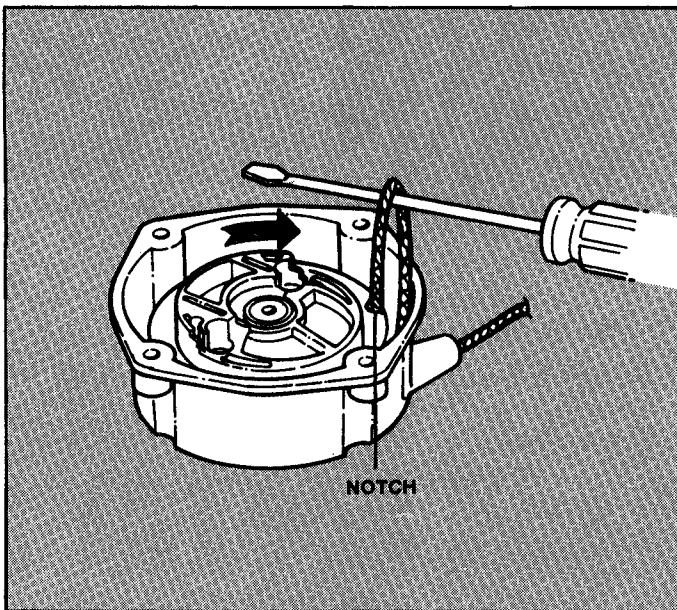

FIGURE 5.2
- A. Pull the starter rope out about 12" until the notch in the reel lines up with the starter rope outlet. Hold the reel securely to prevent its turning, and pull starter rope out from inside of case. See Figure 5.2.
- B. Continue holding the pulley and unwind the rope in the direction of the arrow shown in Figure 5.2.